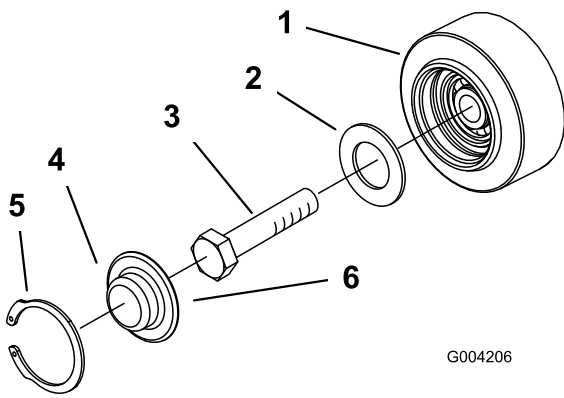

Figure 68
- Remove the snap ring and cap from a road wheel (Figure 68).
4. Check the grease under the cap and around the gasket (Figure 68). If it is dirty, gritty, or depleted, clean out all of the grease, replace the gasket, and add new grease.
6. Place the greased road wheel cap over the bolt head (Figure 68).
7. Secure the road wheel cap with the snap ring (Figure 68).